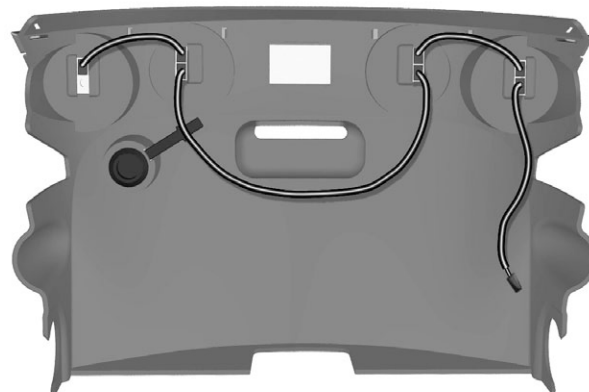

Figure 174.
3. Connect the cables on the back of the light/indicator. See fig. 174.